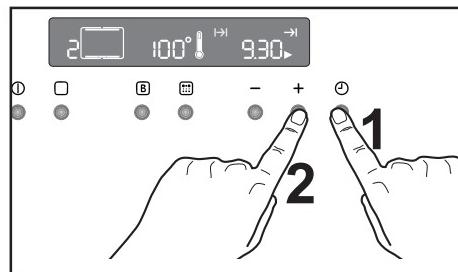

Fig. 11
- 2) Press button ① until the "End of Cooking" function → is selected and the relevant symbol flashes. The control panel will display the end of cooking time (that is, the actual time + cooking duration time - Fig. 11).